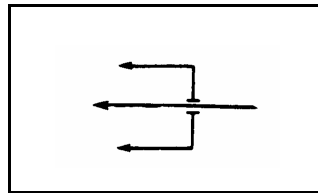

Figure 1-13. Bypass-Impossible Symbol
c. Bypass Impossible (*Figure 1-13*). This symbol shows that the obstacle can only be crossed by one of the following methods: